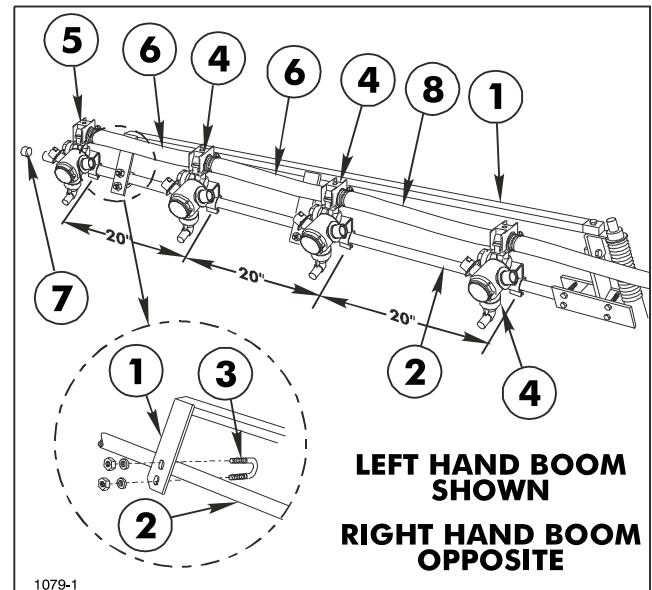

**FIG. 15**
**13.** Insert the plugged end of an Extension Boom Pipe into the Pivot Assembly and secure with four (4) 1/4" x 1-1/4" cap screws and lock nuts. See FIG. 15 Repeat on the opposite side to assemble the other Extension Boom.
**14.** Attach the L.H. Boom Support Assembly to the Pivot Assembly, using a 5/16" x 1-1/2" cap screw and lock nut. See FIG. 15 & 16.)